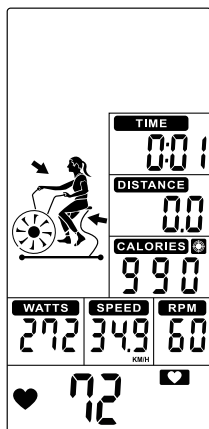

Figure 44
- ③ Preset CALORIES value counts down ,TIME, DISTANCE, WATTS, SPEED & RPM start to count up.(Figure 44).
- ④ Press START button once enter into PAUSE mode, Buzzer will sound for 0.5s per second within 30s. All values are displaying on LCD and flashing in every 2s. If continue to stop training for 5 minutes, buzzer sounds 2s and enter Wake-up mode. Press START to resume workout.
- ⑤ No signal input for 30s, buzzer sounds 1s and enter to Wake-up mode.